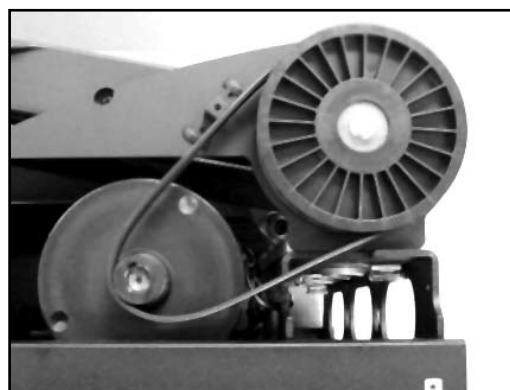

Figure 4-2
- 4-2** Make sure that the belt is installed correctly into the grooves of the pulleys (See Figure 4-2).